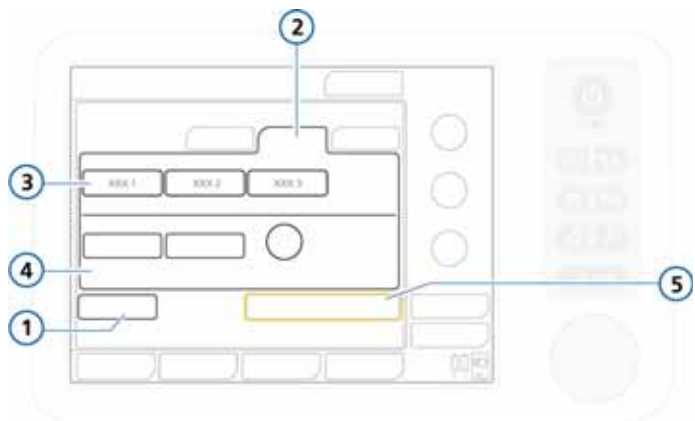

Figure 5-2. Patient setup/Standby window (adult/pediatric)
After you initiate ventilation, the patient setup window is displayed (Figure 5-2), with default settings selected. Select, adjust, and activate the desired items.
- **Adult/Ped.** For adult and pediatric patients (Figure 5-2). See Table 5-1 for age and weight ranges.